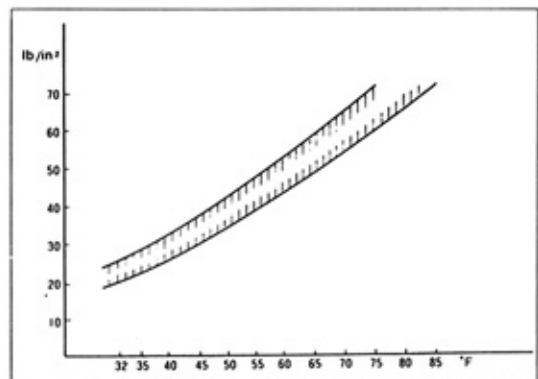

Fig. 81
- g) Relate two readings on the following chart. (See Fig. 81.)